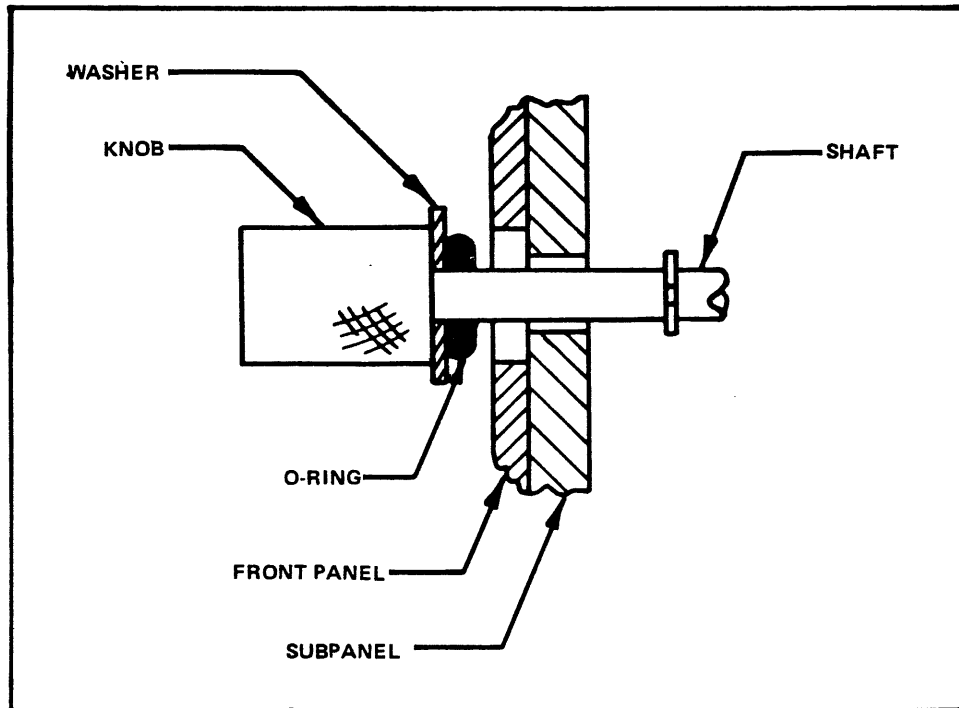

Figure. 34. Detail of X-Y Module thumbscrews.
STEP 32. Preparation of the Thumbscrews that are used for securing the X-Y Output Module (see Figure 34)
- (1) 1502 TPN 354-0538-00, MPL Item 3-11.
- (2) 1503 TPN 354-0538-00, MPL Item 3-10.
- (1) Insert one of the Pins (shaft) through the Front Panel and Subpanel.
- (2) Apply G-661 lubricant to the O-ring.
- (3) Position the O-ring on the shaft as shown in Figure 34.
- (4) Place the knob on the shaft and tighten the setscrew.
- (5) Repeat procedure for the second thumbscrew.